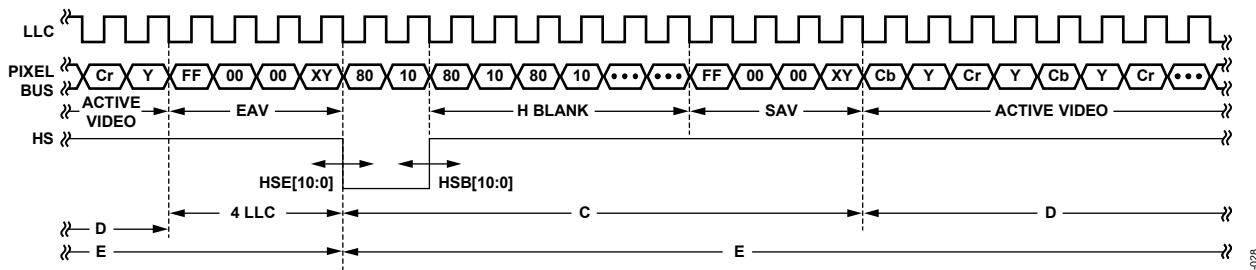

Figure 35. HS Timing
The position of this edge is controlled by placing a binary number into HSB[10:0]. The number applied offsets the edge with respect to an internal counter that is reset to 0 immediately after EAV Code FF, 00, 00, XY (see Figure 35). HSB is set to 00000000010b, which is two LLC clock cycles from count [0].
The position of this edge is controlled by placing a binary number into HSE[10:0]. The number applied offsets the edge with respect to an internal counter that is reset to 0 immediately after EAV Code FF, 00, 00, XY (see Figure 35). HSE is set to 00000000000b, which is 0 LLC clock cycles from count [0].
**Table 64. HS Timing Parameters (See Figure 35)**